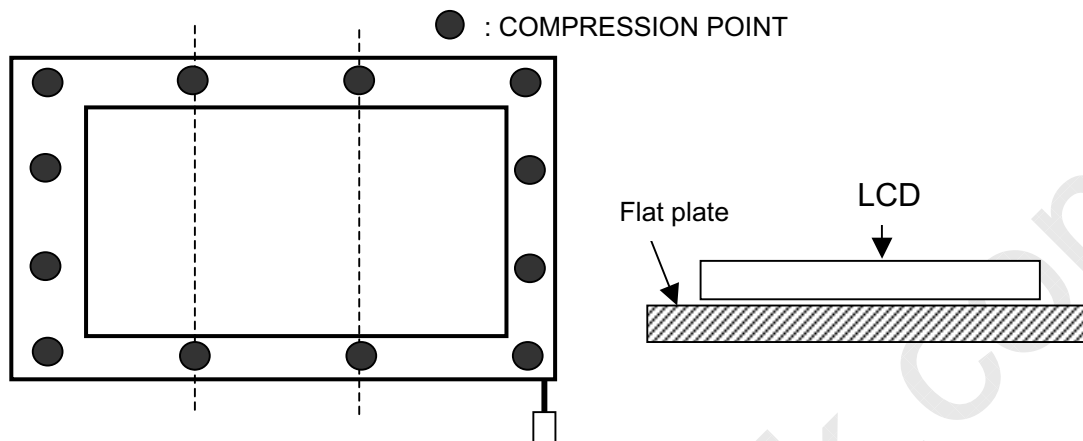

Fig 1-3-1
(1) The compression condition of front side
- (a) Compression point : 12 points (refer to Fig 1-3-1)